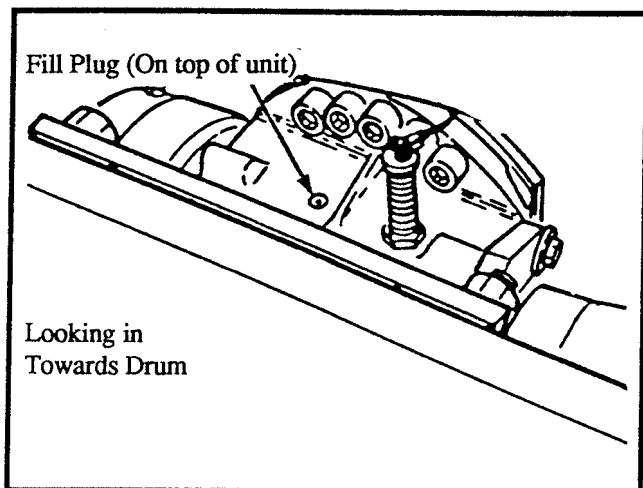

Figure 13-6. Right Angle Drive Unit
1. Remove the fill and level plugs located on the top and side of the drive unit. Refer to Figure 13-6.